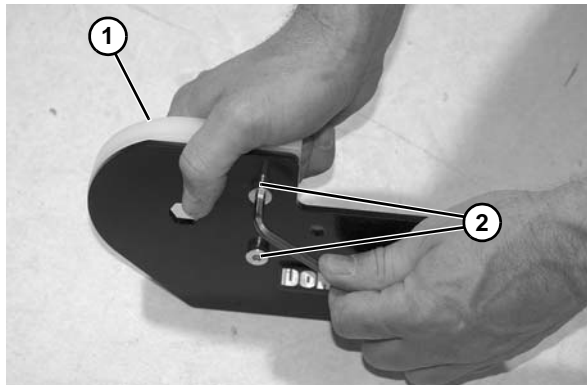

Figure 70
7. Check idler terminal assembly (**Figure 70, item 1**) for wear. If worn, remove two low head cap screws (**Figure 70, item 2**) and replace.